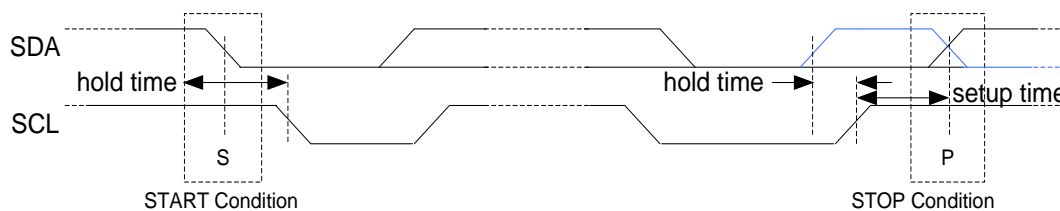

Figure 54. START and STOP (or repeated START, blue line) condition
An idle I²C bus state occurs when both SCL and SDA are not being driven by any master and are therefore in a logic HI state due to the pull up resistors. Every transaction begins with a START (S) signal and ends with a STOP (P) signal. A START condition is defined by a high to low transition on the SDA while SCL is high. A STOP condition is defined by a low to high transition on the SDA while SCL is high. START and STOP conditions are always generated by the master. This slave module also supports repeated START (Sr) condition which is same as START condition instead of STOP condition (the blue-color line shows repeated START in Figure 54).